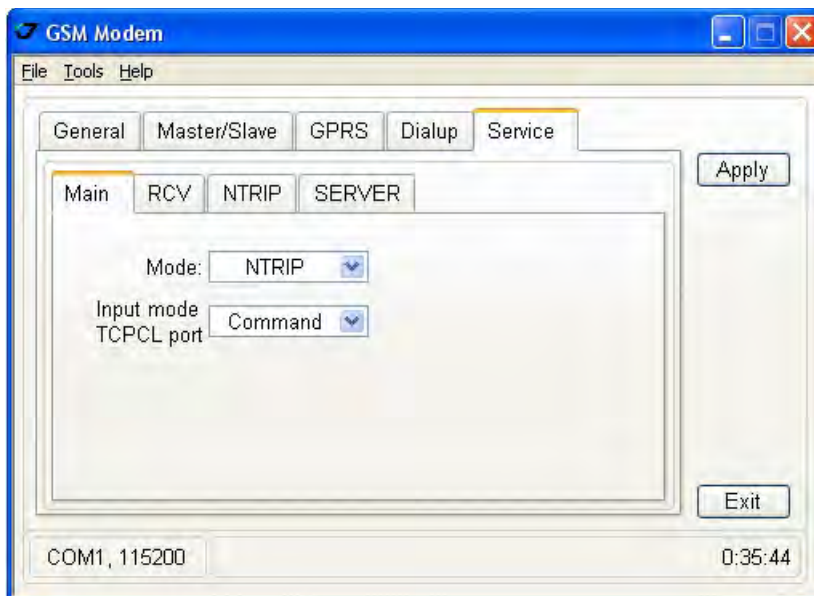

Figure 9. Service tab
- In the *Service* tab *Main* subtab specify the following parameters (Table 4) and click *Apply* (Figure 9 on page 33).